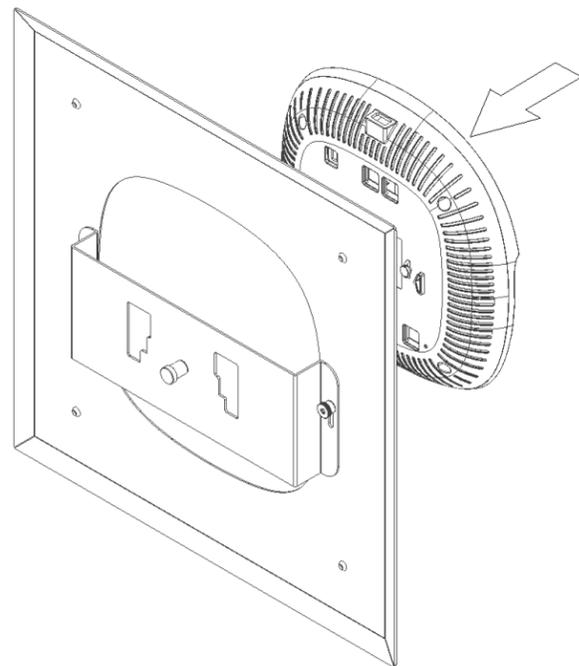

Figure 2 - T-Bar Clip Install
**Step 3** – Loosen the thumb nuts by approximately 1 or 2 turns to allow the bracket to slide in the slots located beneath the thumb nuts. Place the access point in the opening (Figure 2).